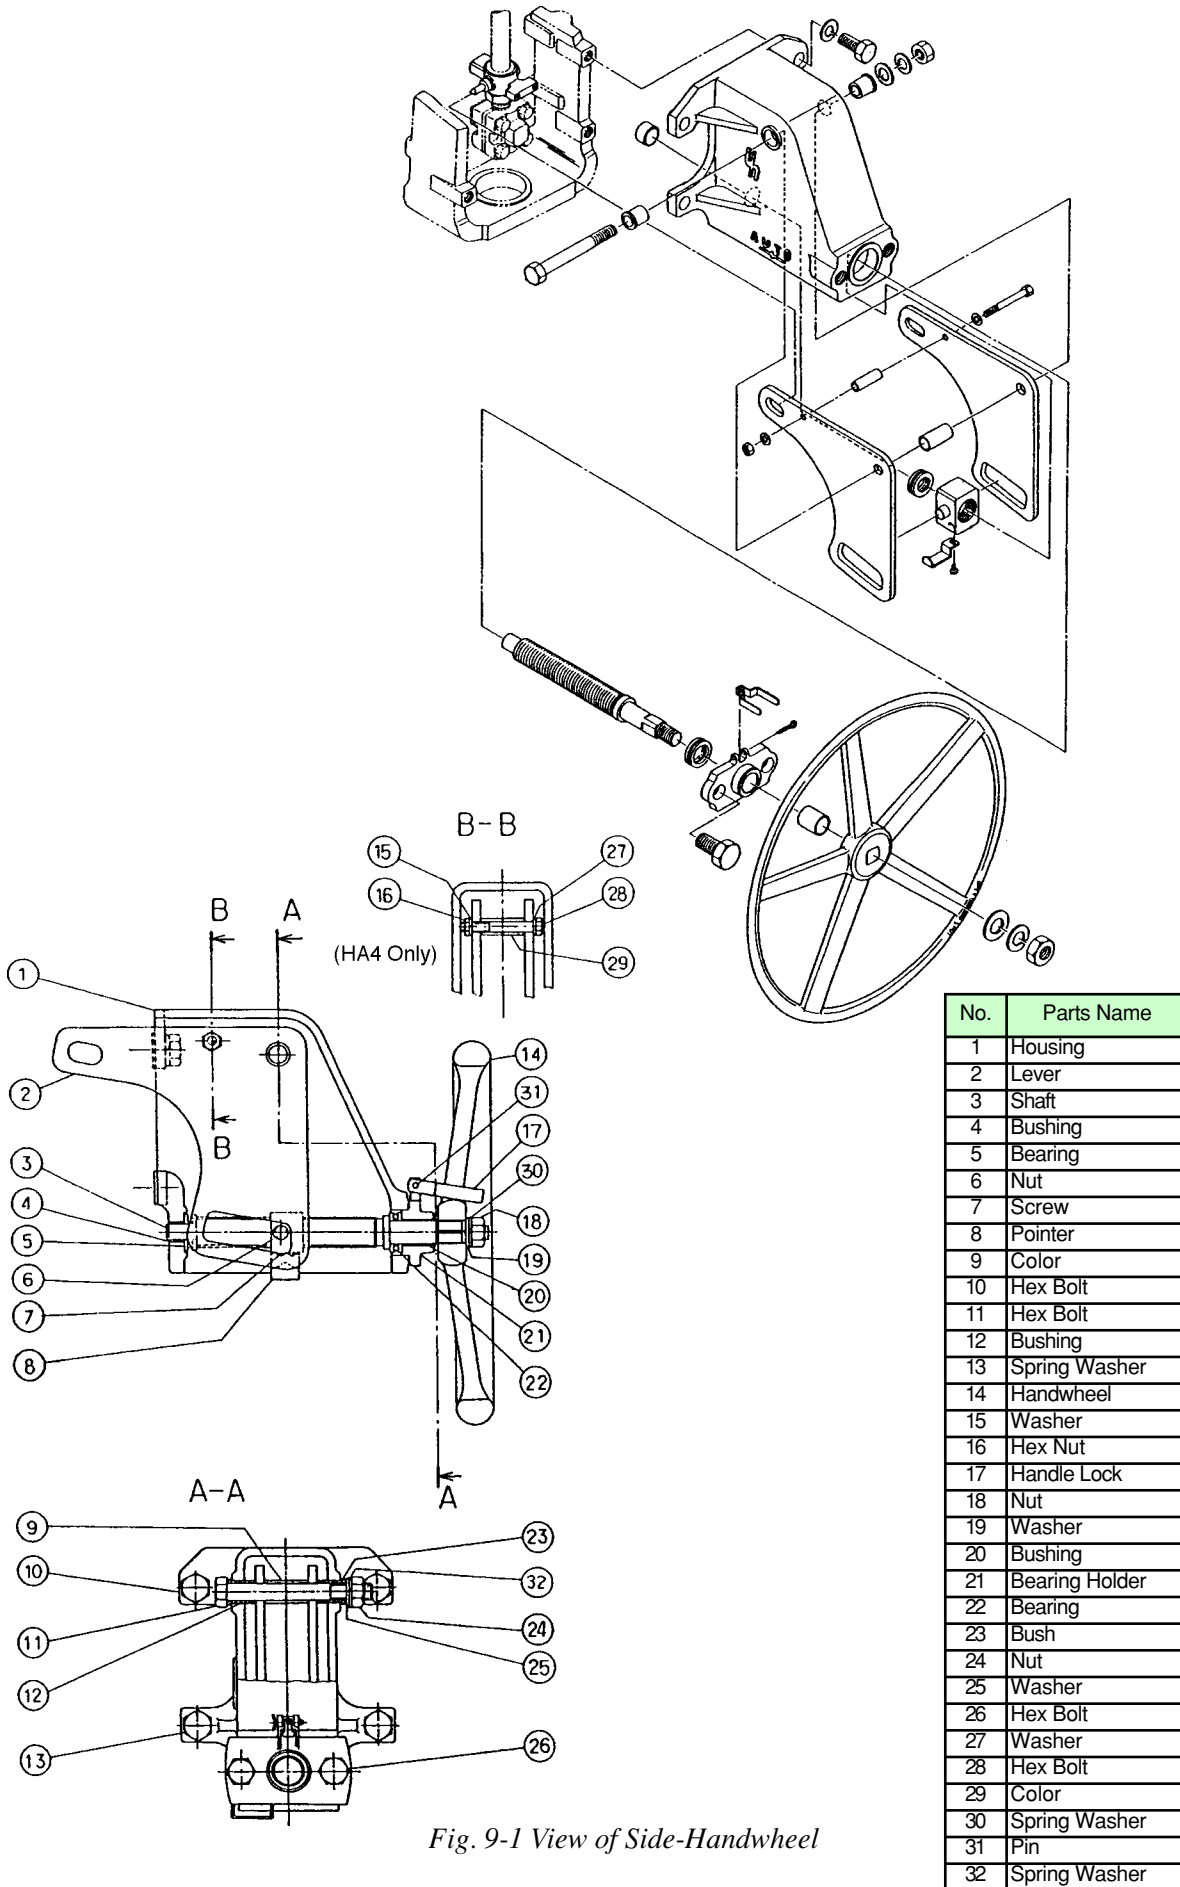

Fig. 9-1 View of Side-Handwheel
To install the side handwheel, refer to Fig. 9-1 and proceed as follows:
- (2) By turning the handwheel, set the pointer of the operation nut at the AUTO position.
- (3) Loosen the bolt (item number 6 as-show in Fig. 9-1) and widen the distance between levers.
- (4) Install the handwheel on the mounting pad at the back of the actuator, with the mounting-bolts.
- (5) Engage the holes at the end of two levers to the pointer boss and engage those of the other ends to the boss of the operation nut, and then tighten the bolt.
- (6) When the control valve is in the automatic mode of operation, set the pointer of the operation nut at the AUTO position and keep the handwheel locked.
Before starting disassembly, check that the pointer is set at the AUTO position. (Refer to Fig. 9-1)
To assemble the side handwheel, refer to Fig. 9-1 and follow the disassembly procedure in the reverse order.